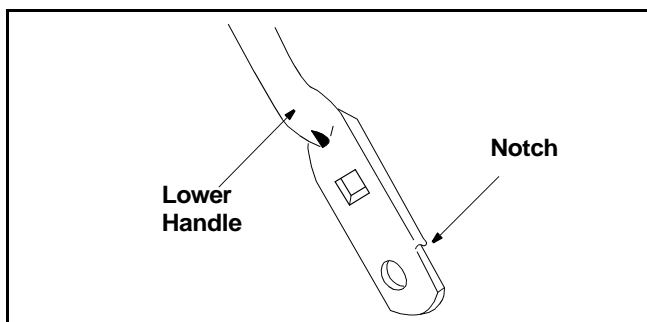

Figure 17
- Turn lower handle around so the notch is facing forward as shown in Figure 17 . Reassemble, placing the bottom holes in the handle over the weld pins in the handle mounting bracket.